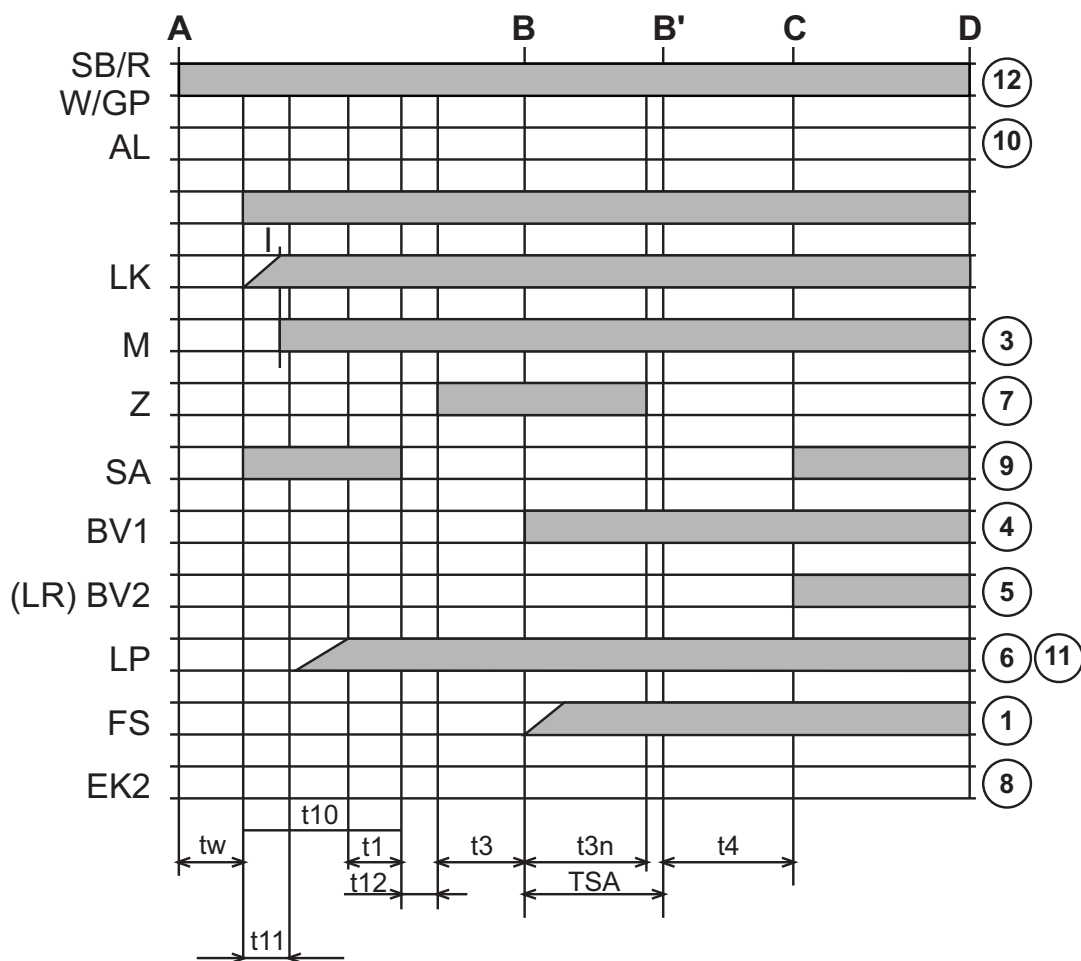

fig. 11
- Operation starts according to the diagram of fig. 11.